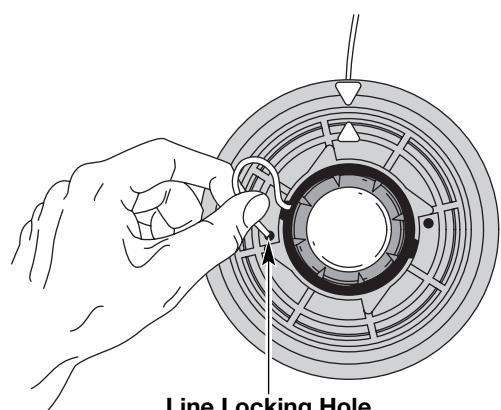

Fig. 14
- Insert the line into the locking hole (Fig. 14). Do not push the line more than a 1/2 inch (12.7 mm) into the line locking hole. The line will form a small loop (Fig. 14) when it is inserted correctly.